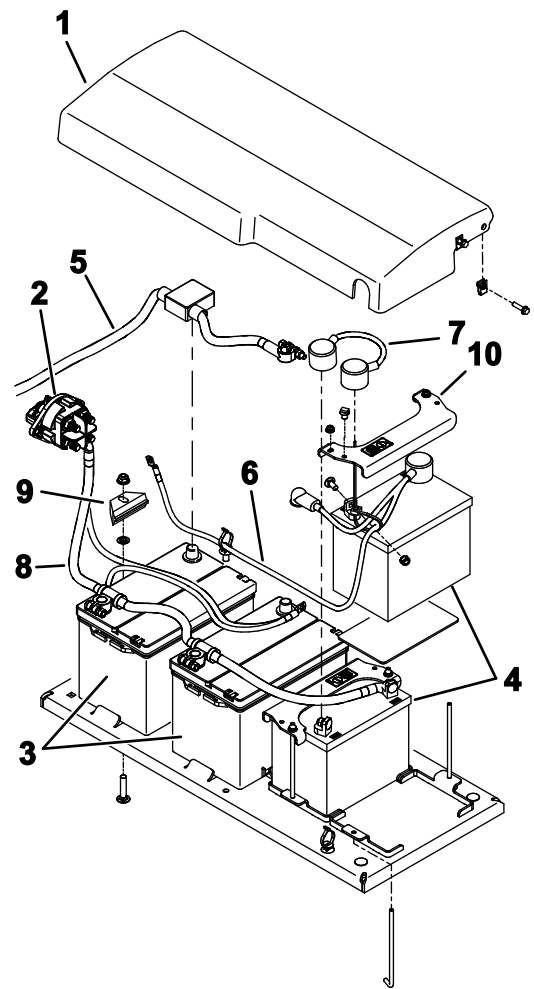

Figure 113
6. Remove the fasteners that secure the battery cover to the machine and remove the cover (Figure 113).
9. Carefully remove the batteries from the machine (Figure 113).
1. Secure the batteries with the hold downs (Figure 113).